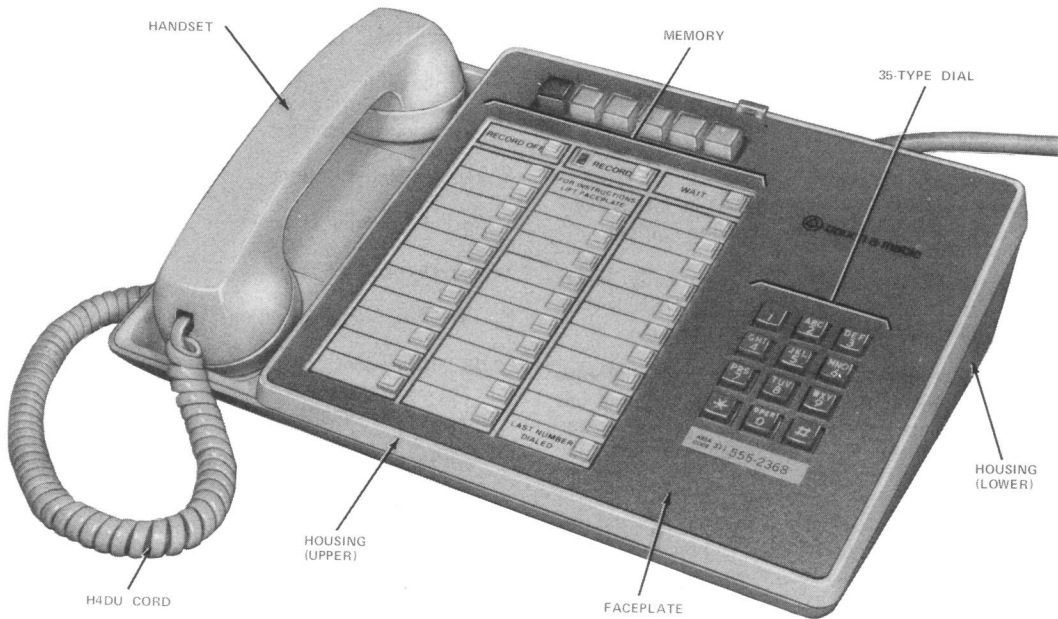

Fig. 1—2872A1M (MD) or 2872A2M Telephone Set
1.01 This section contains information on the 2872A1M (MD) and 2872A2M TOUCH-A-MATIC telephone sets equipped with a TOUCH-TONE\* telephone dial (Fig. 1).